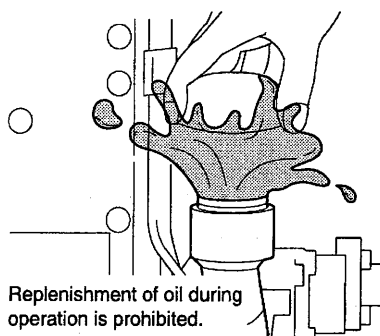

Fig. 4
- * **Oil shall be scattered if it is replenished during operation. Replenish oil always when the compressor is in stop. (Fig. 4)**